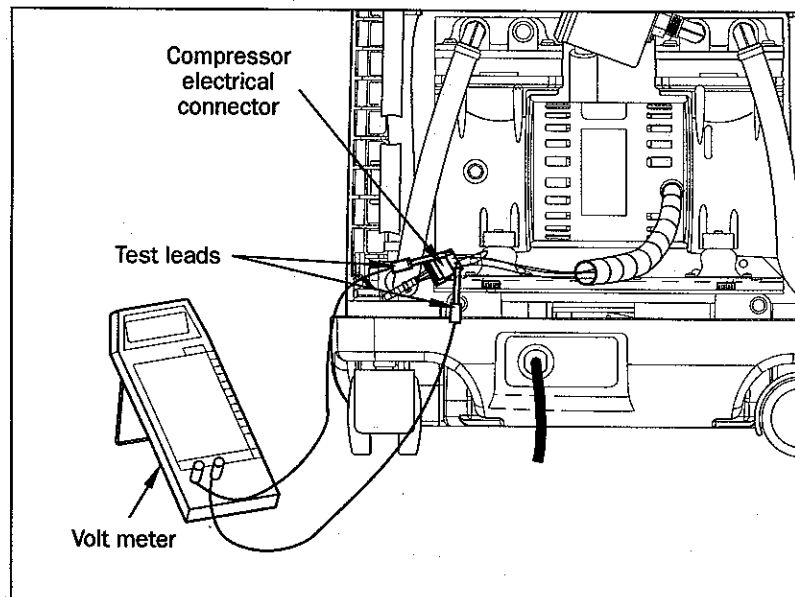

Figure 32
1. This voltage can be checked at the compressor connector using a volt meter or test light connected to the black and white wires. The volt meter is the best way to test. (Refer to test position, Figure 32.)
2. Disconnect the compressor wires by disconnecting the white electrical connector (Figure 32).